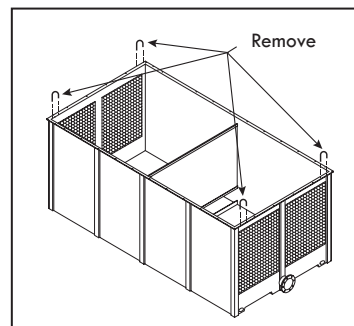

Figure A-74: Removing the U-bolts from basin of a Modular Tower (RTGM)
- H. Remove the U-bolts located on the flange of basin section #1 before installing the body section #1 (see Figure A-74).